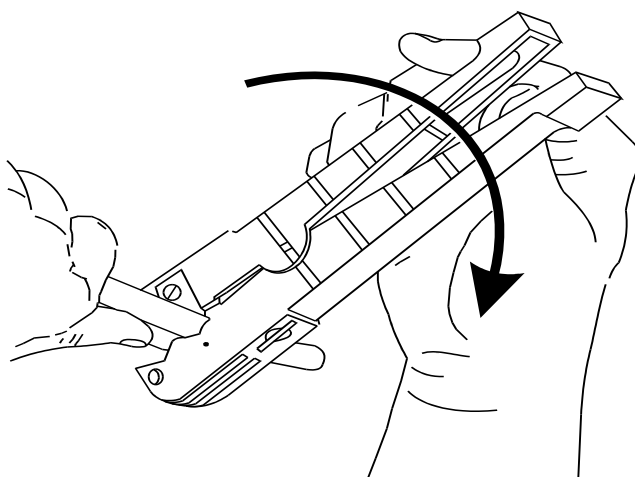

Figure 3-13
- c. Spin the tool around the cable, as demonstrated in Figure 3-13 until the maximum cutting depth is obtained.